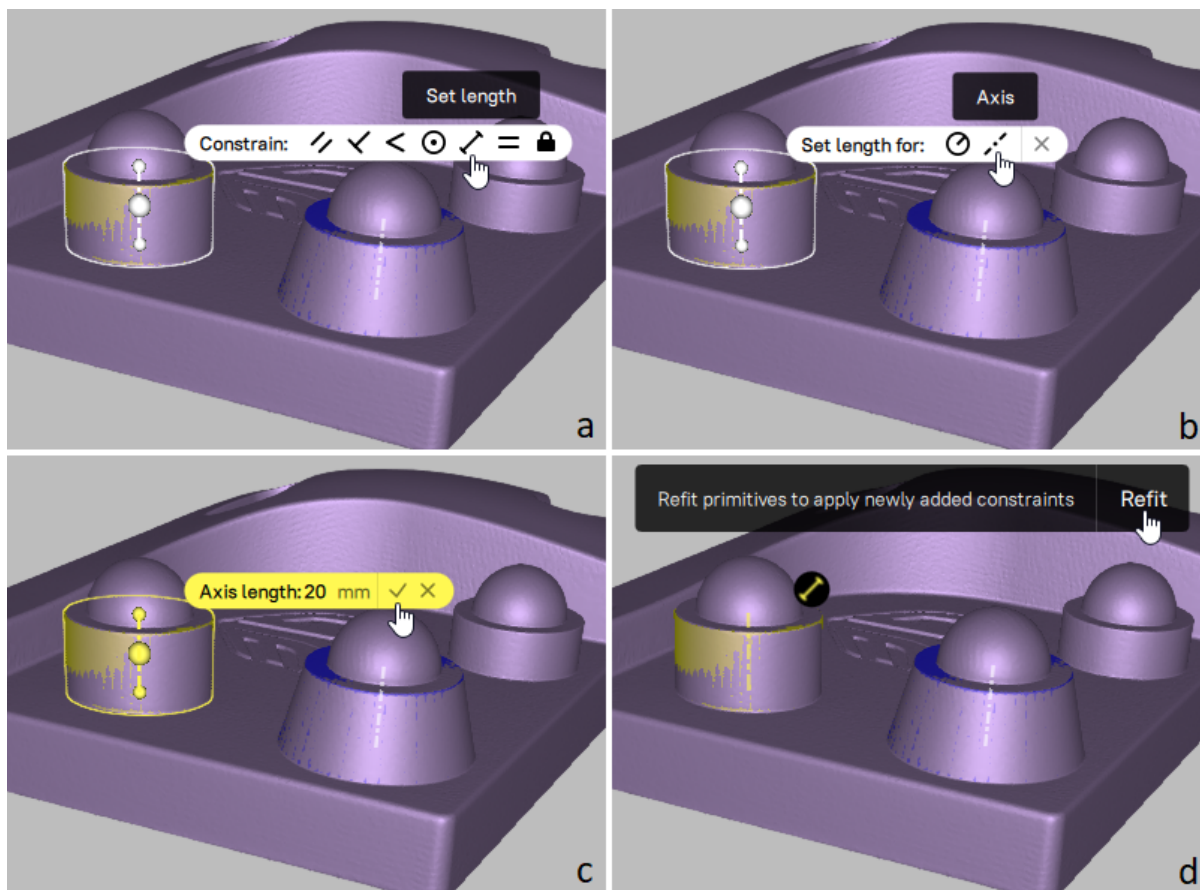
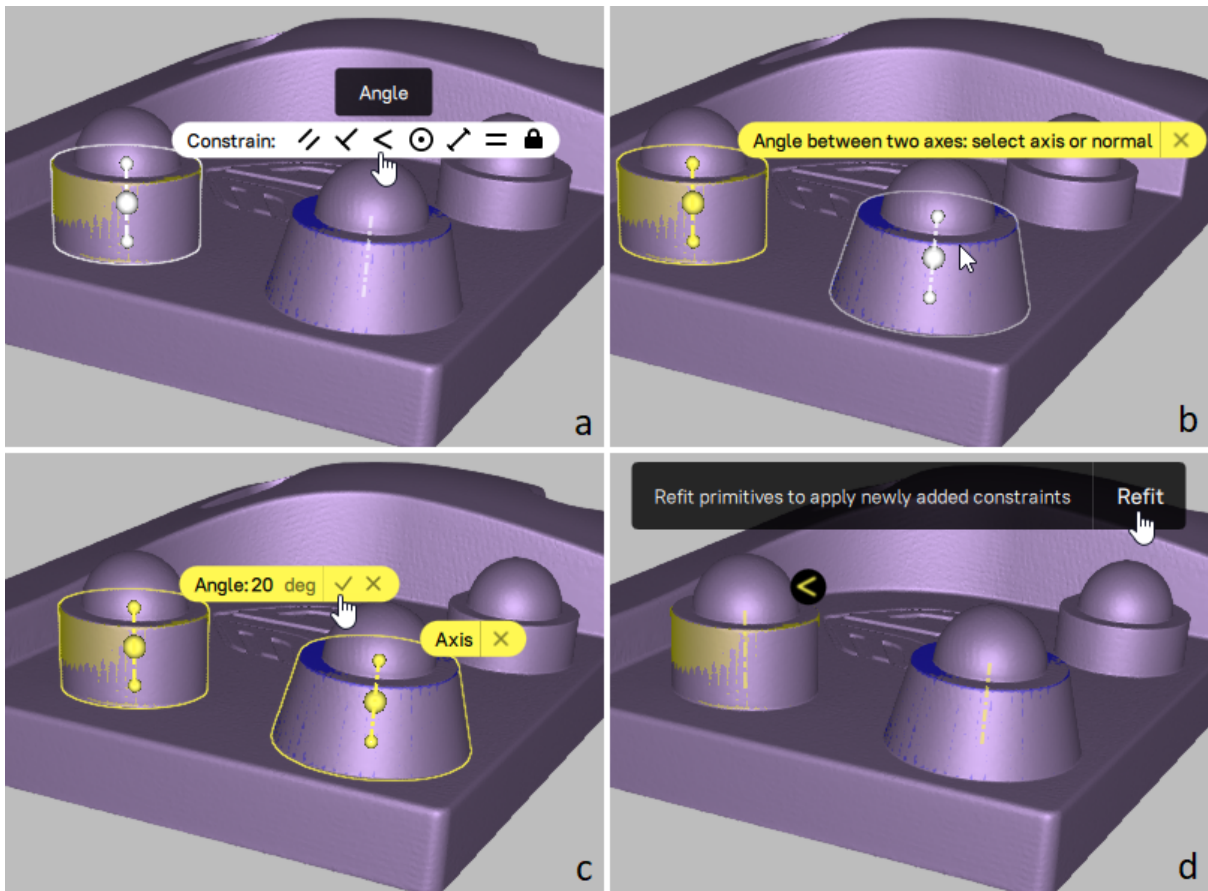
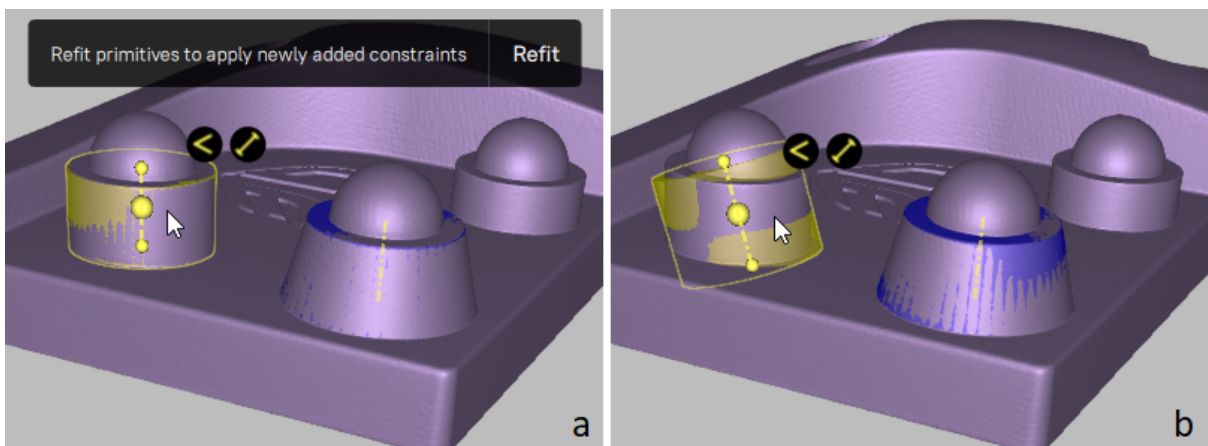

Figure 139: Example for specifying CAD primitive constraints: setting the height of a cylinder.
Figure 140: Example for specifying CAD primitive constraints: setting the requirement that the axes of two primitives are at a given angle to each other.
Figure 141: Example for applying CAD primitive constraints.
2. Click the desired primitive. The *Constrain* pop-up toolbar appears with icons for the applicable constraint types (see an example of such a toolbar for the case of a cylinder in Figure 139, a and Figure 140, a).
- For  (set length), click one of the icons of primitive sizes on an additional pop-up tool bar if it appears (see an example in Figure 139, b). Specify the desired primitive size value and click  on the appropriate pop-up toolbar (see Figure 139, c).
- For , , , and , click all other primitives to be involved into the new relation (see an example in Figure 140, b). When done, click  on the appropriate pop-up toolbar (see Figure 140, c).
The corresponding constraint icon will be displayed next to each primitive participating in the constraint but no changes to the size or position of the primitives will occur at this point (see examples in Figure 139, d and Figure 140, d). A pop-up toolbar with the *Refit* button will appear at the top of the *3D View* window.
The primitives will be rebuilt to satisfy the specified constraints. Figure 141, b presents the result of applying both constraints illustrated in Figure 139 and Figure 140.